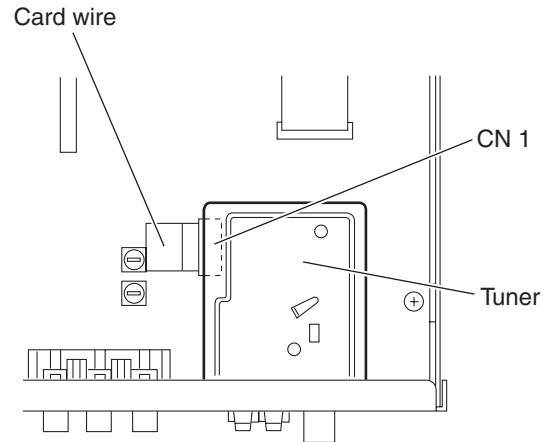

Fig.9
- (2) From the top side of the main body, disconnect the card wire from the connector CN1 on the tuner. (See Fig.9.)
- (3) Take out the tuner.